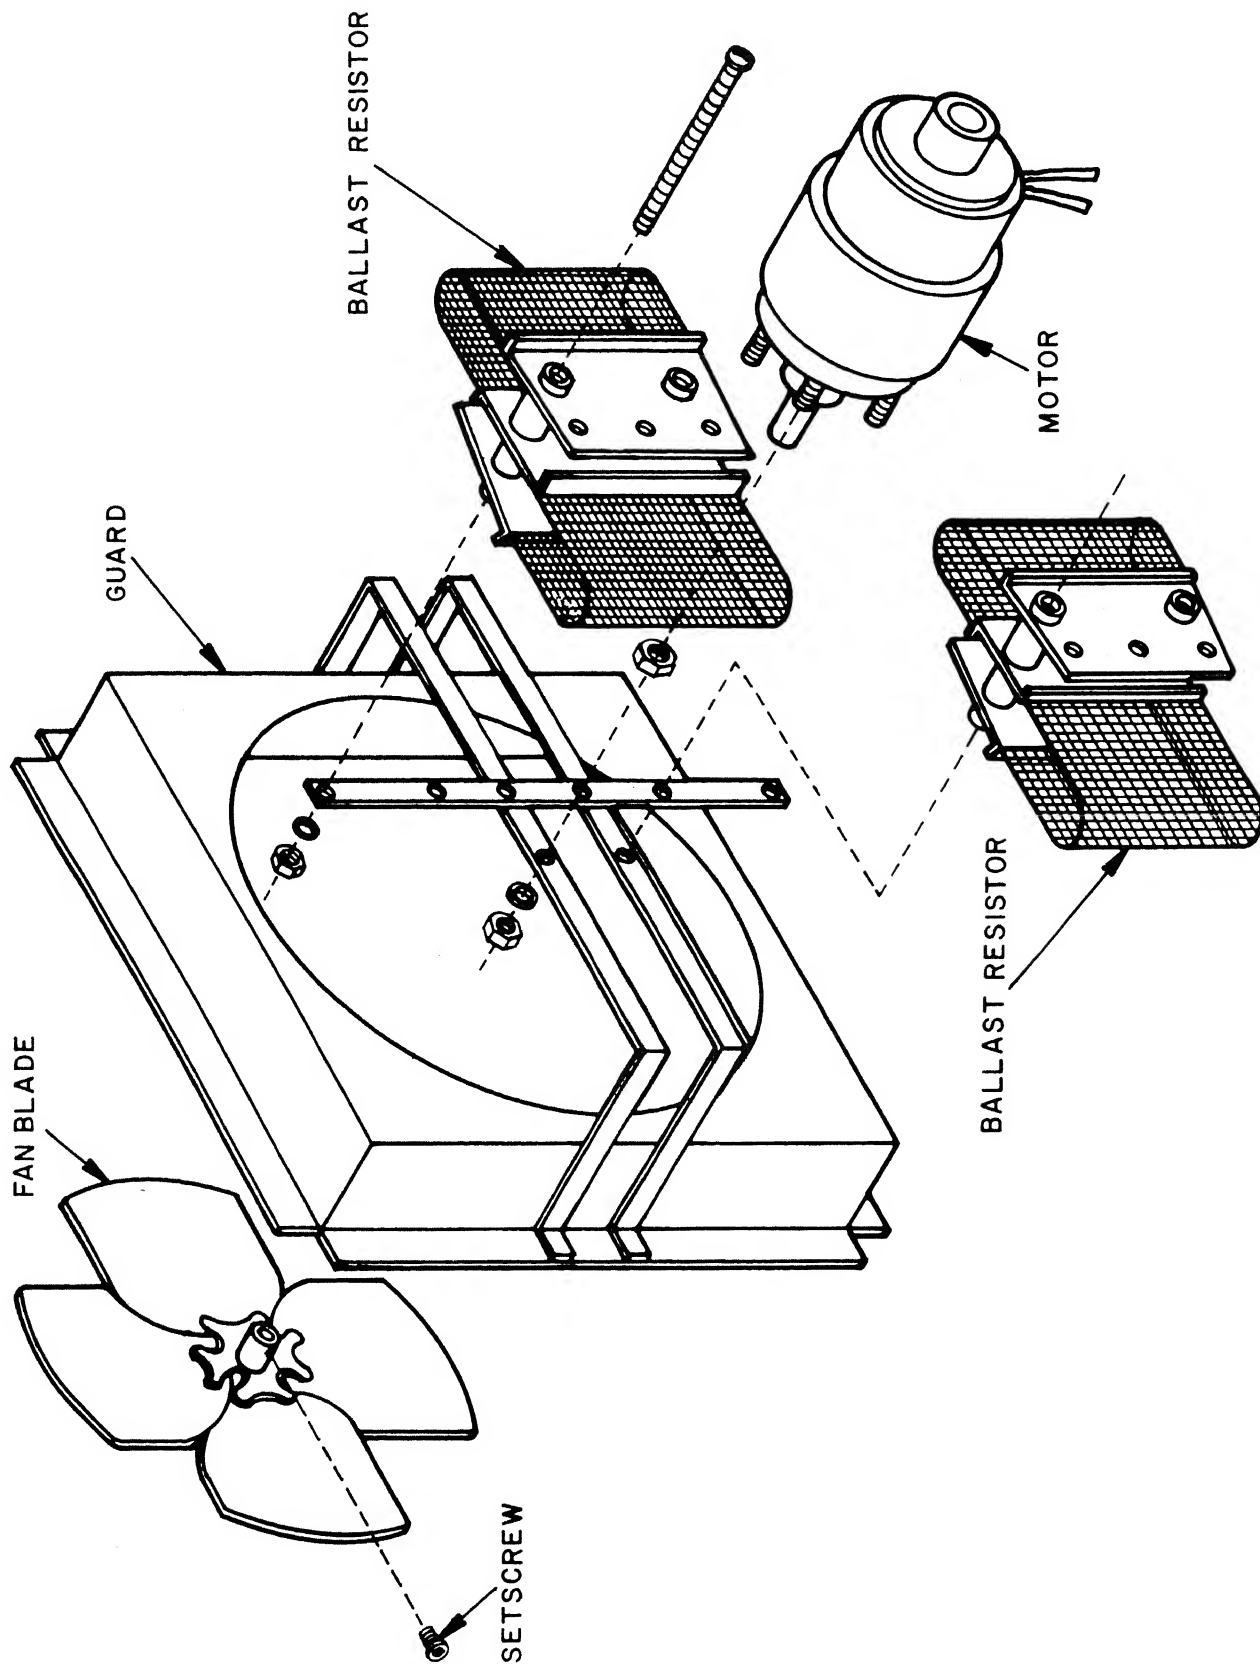

Figure 3-22. Fan blade, motor, and ballast resistors, removal and installation.
- (1) Remove the fan motor and guard assembly (para 3-36).
- (2) Refer to figure 3-22 and remove the fan blade,
- (1) Refer to figure 3-22 and install the fan blade, motor, and ballast resistors.
- (2) Install the fan motor and guard assembly (para 3-36).